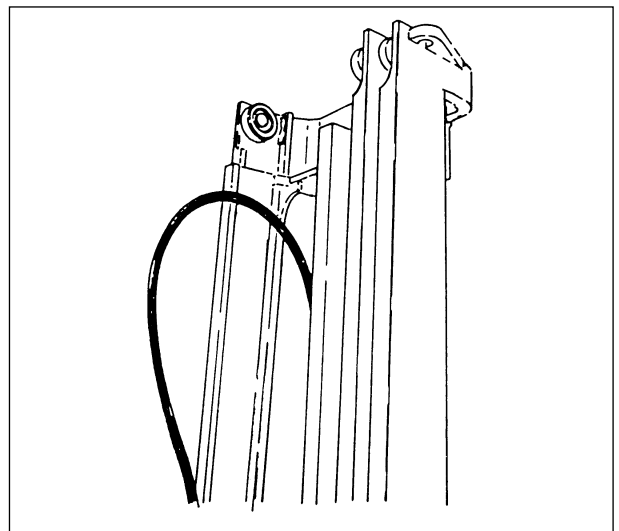

Fig. 3.506
- ⑮ Fig. 3.506 shows the top rollers and slippers of the inner mast.